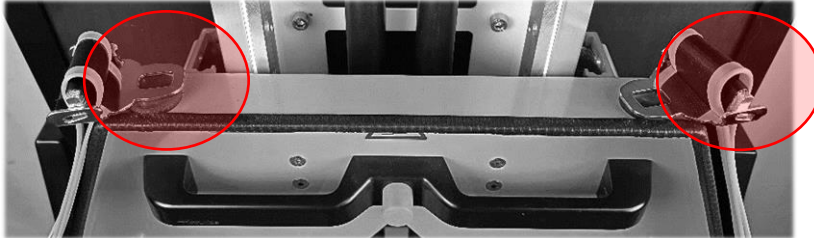

Figure 4: Position of the magnets
2. Loosen the straps, attach the right strap to the right magnet and the left strap to the left magnet (Fig. 4).